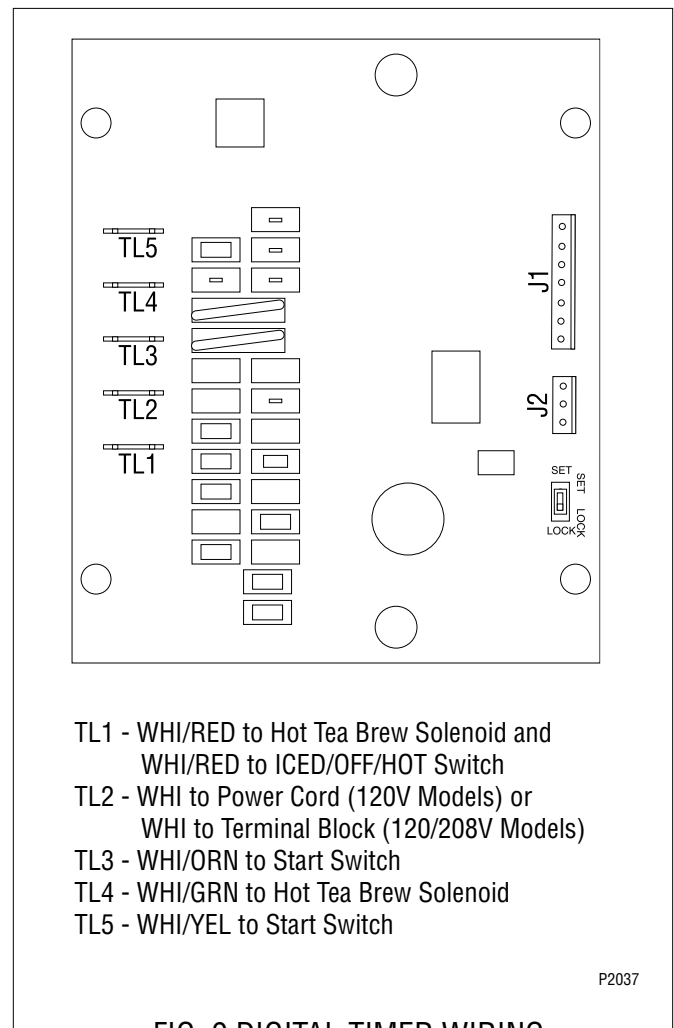

FIG. 9 DIGITAL TIMER WIRING
4. Refer to Fig.9 when reconnecting the wires.
4. Attach all wires to the replacement timer board prior to installation to the component mounting bracket. Refer to FIG. 9 when reconnecting the wires.